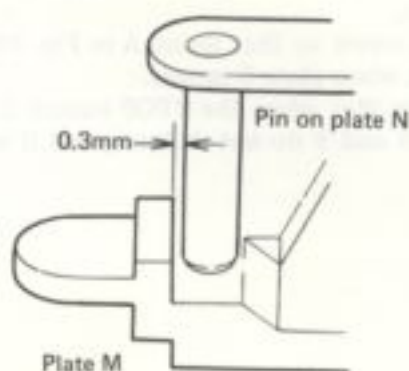
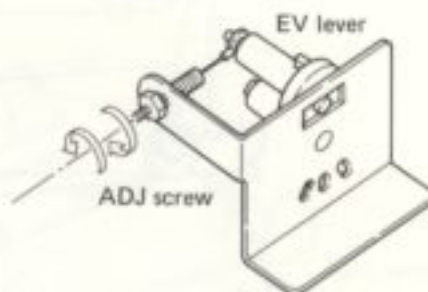

Fig. 37
Fig. 38
2. When arm elevation is UP, so that spacing between plate M and pin of plate N shown in Fig. 37 becomes 0.3 mm, adjust screw shown in Fig. 38.